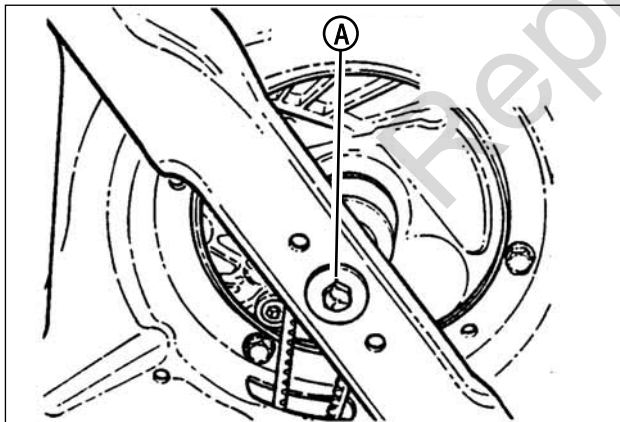

Figure 18: Tightening the blade cap screw
2. Tilt the mower up on its rear wheels for access to the blade cap screw (**A, Figure 18**). Do not tilt the mower with the spark plug or carburetor down.